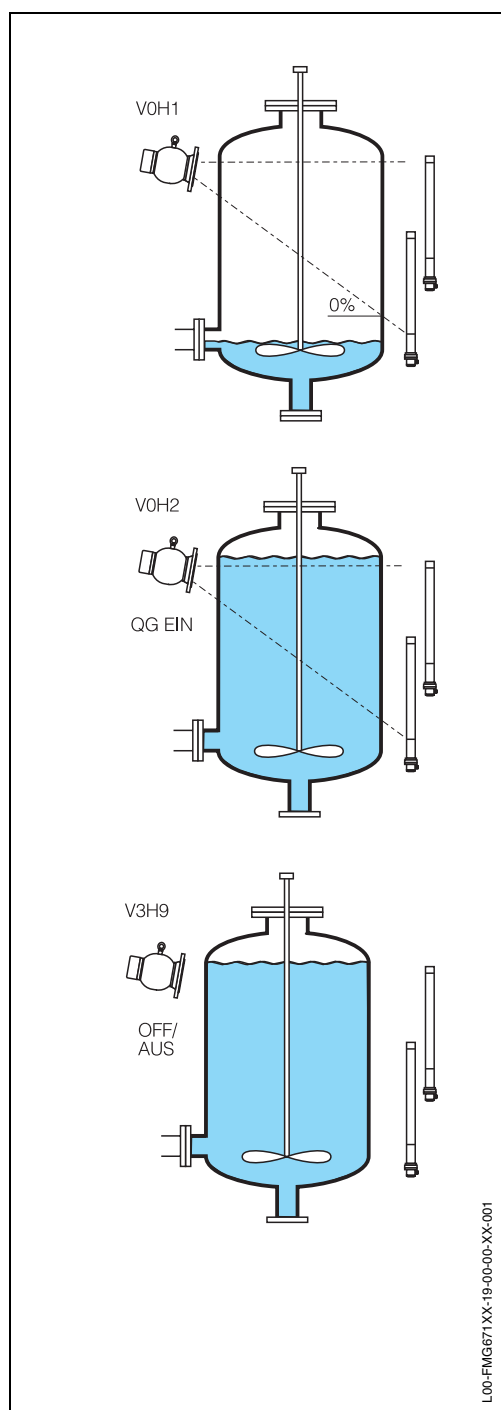

Fig. 5.5 Background calibration in cascade mode
- Wire up the cascade interface as shown in Fig. 5.5.